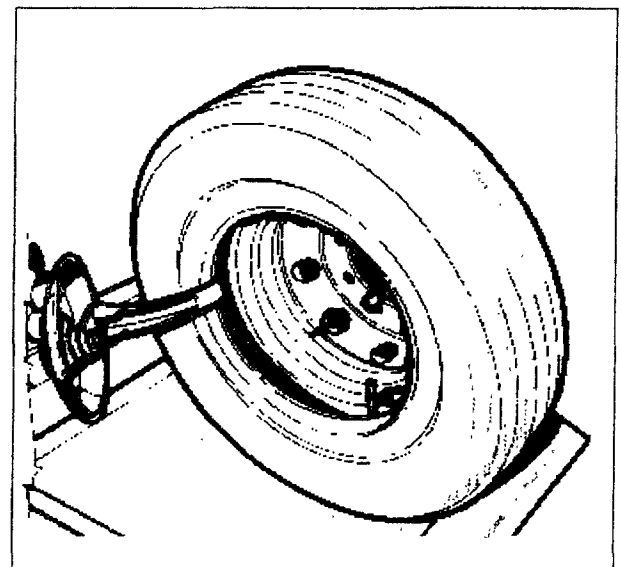

Fig.35
2. Position the mounting hook about $3/4$ " (1.5 cm) to the inside of the rim edge and $1/2$ " (1 cm) away radially. Rotate the chuck clockwise. Normally less than $1/4$ of a revolution is sufficient to mount the first bead (Fig.35).